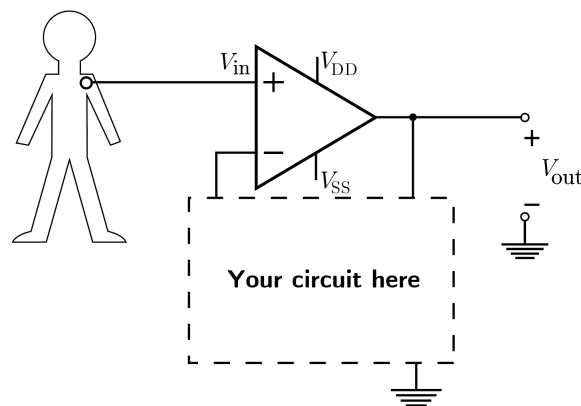

Figure 4: Unfinished ECG amplification circuit.
- (a) We need to amplify the voltage signal recorded by the electrodes V_{in} by a factor of 1000. Using the op-amp in Figure 4 below and 2 resistors, **draw a circuit that achieves $V_{\text{out}} = 1000 \cdot V_{\text{in}}$. Write an equation for V_{out} in terms of V_{in} and the resistor(s), label the resistor(s) you use (i.e. R_1, R_2), and choose their values.** You should redraw the entire circuit in your answer sheet, but there is no need to draw the human as long as you label V_{in} . Clearly explain and show your work.